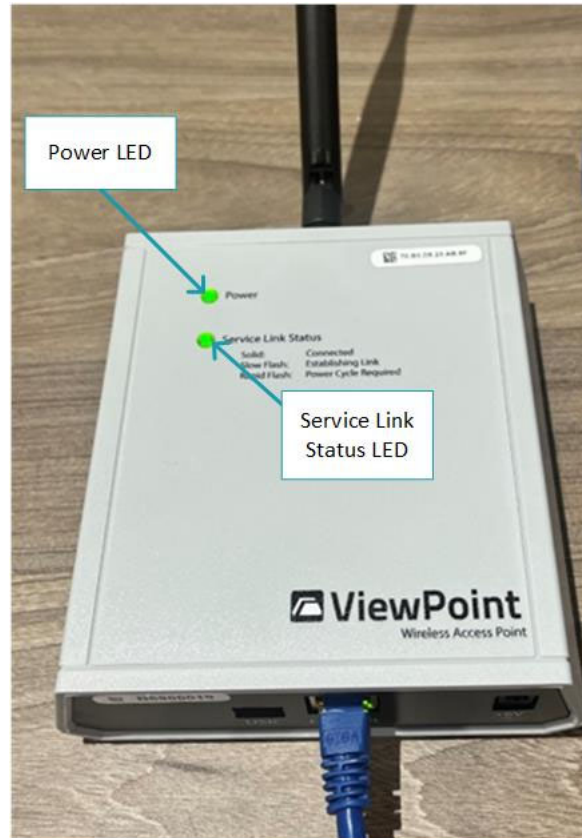

Fig 3.2-1 – Access Point Indicator Lights
- Fig 3.2-1 – Access Point Indicator Lights